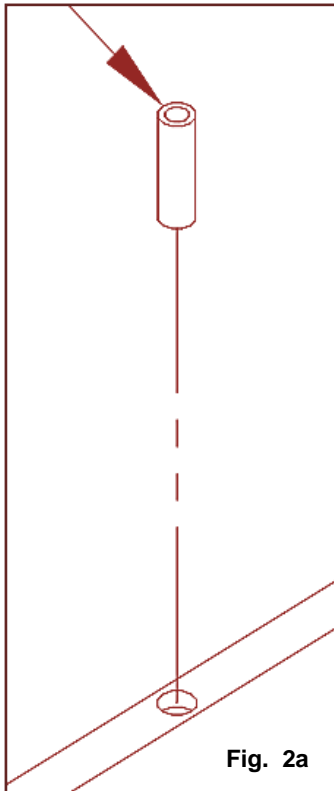

Fig. 2a
Insert the Spacer (item 13) in the hole provided on the top of the Modesty panel (Item 2). (See Figure 2a).